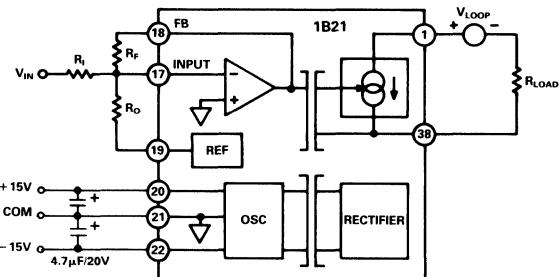

Figure 1. Basic Interconnections
Input Configurations: The 1B21 has been designed with a flexible input stage for a variety of input and output ranges. The basic interconnection for setting gain and offset is shown in Figure 1. The output of the internal amplifier is constrained to 0 to $-5V$, which maps into 0 to 20mA across the isolation barrier. Thus to create a 4mA offset at the output, the input amplifier has to be offset by 1V.
TC Considerations of External Resistors: The specifications for gain and offset temperature coefficient (TC) for the 1B21 exclude the effects of external components. The total gain TC for the circuit in Figure 1 is: